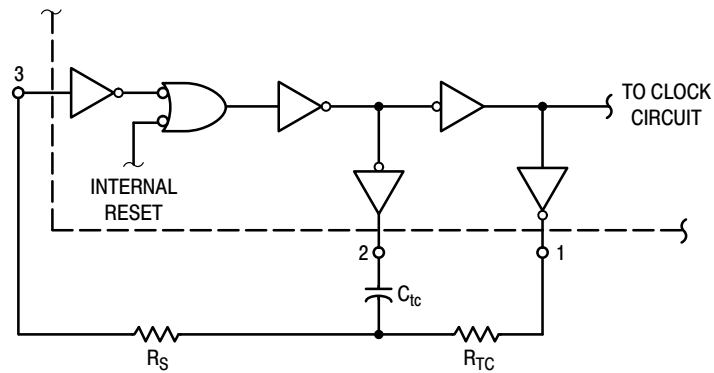

Figure 3. Oscillator Circuit Using RC Configuration
5. When using the on chip oscillator the total supply current (in μAdc) becomes: IT = ID + 2 Ctc VDD f × 10–3 where ID is in μA, Ctc is in pF, VDD in Volts DC, and f in kHz. (see Fig. 3) Dissipation during power-on with automatic reset enabled is typically 50 μA @ VDD = 10 Vdc.
The RC oscillator as shown in Figure 3 will oscillate with a frequency determined by the external RC network i.e.,